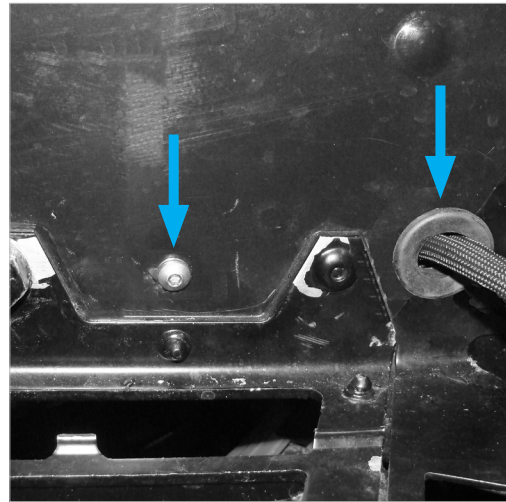

Figure 30: p-clamp location (left), grommet (right)
1. Route the front track and rear track harness wires through one of the p-clamps (026-01-158 Loop Clamp [.625 in x 0.500 in THK]). Use one bolt, one nylock nut, and two washers to secure the p-clamp to the hole you made in the tunnel to support the rear suspension wiring harnesses (Figure 30). Torque to 2.5 N·m.